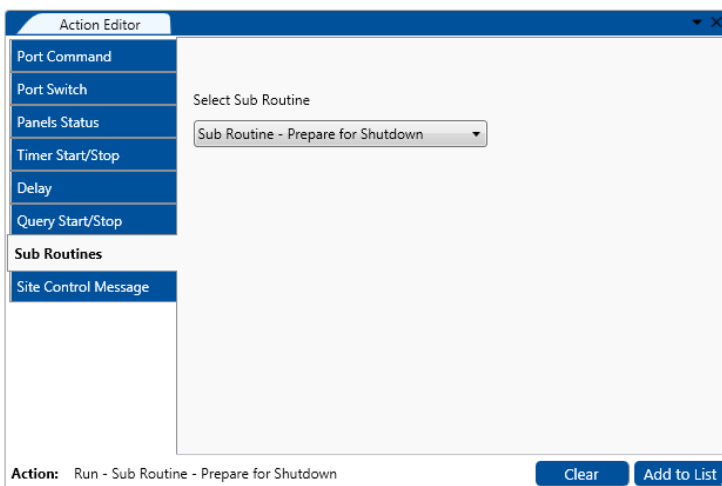

Figure 250: Sub Routines – Selecting the Sub Routine Action Group Trigger in the Action Editor
- In the Action Editor select Sub Routines and add the Sub Routine see Figure 250.